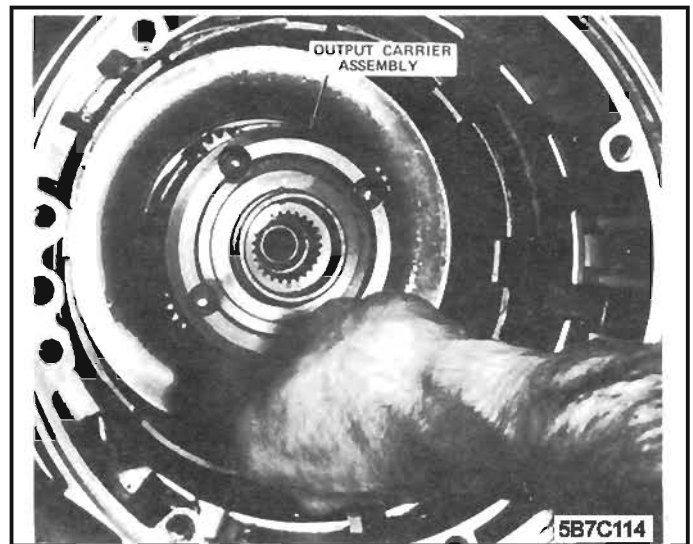

Figure 88 Output Carrier Installation
1. Install output carrier assembly. *See Figure 88.*